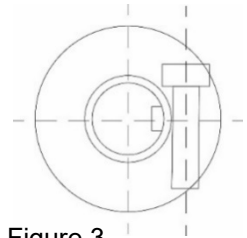

Figure 3
- 4) Insert the motor shaft into the gearhead input hub, with the motor shaft keyway (if present) aligned with the gearhead input shaft clamp opening. Be sure to align the collet gap over the flat and the set collar perpendicular to the flat. (Fig 3)